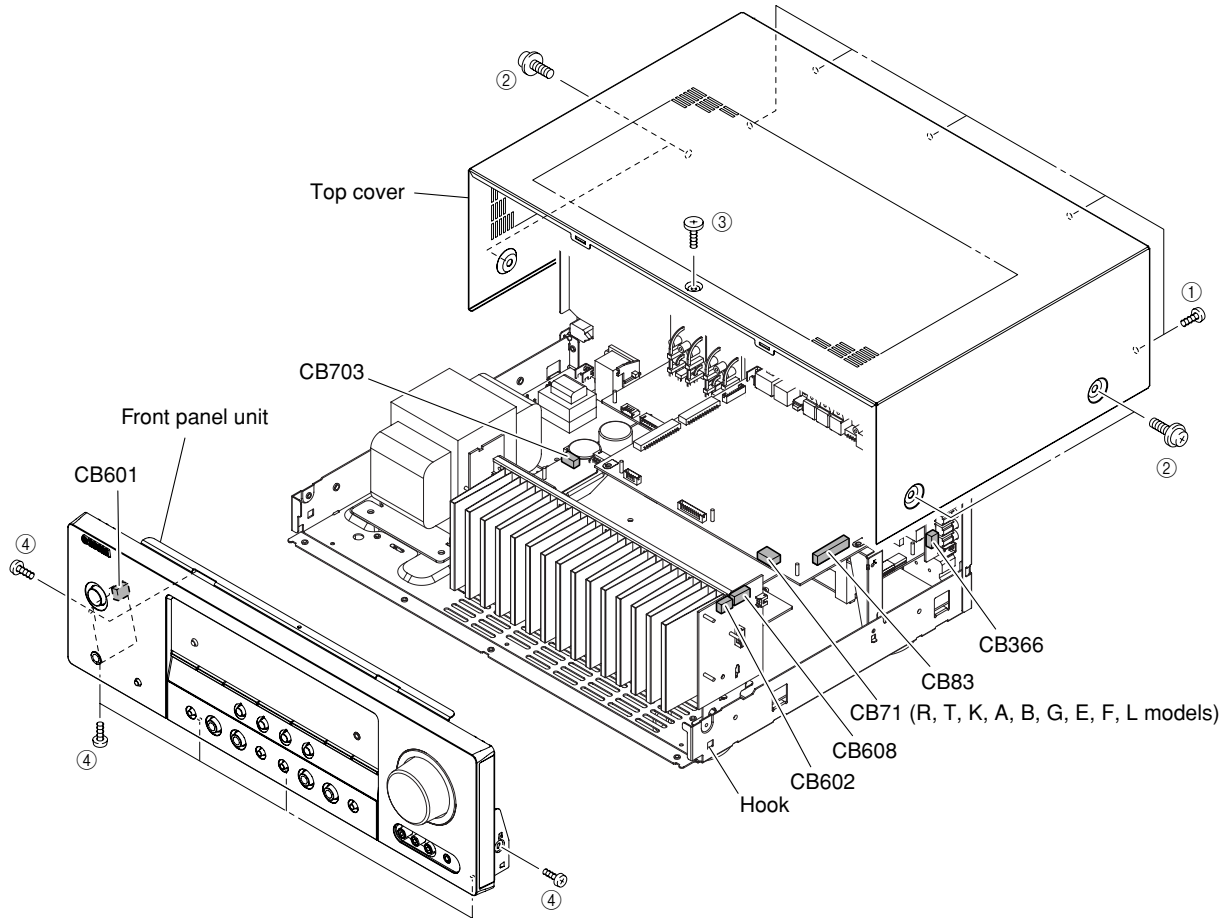

Fig. 1
- a. Remove 5 screws (①), 4 screws (②) and 1 screw (③). (Fig. 1)
- b. Slide the top cover rearward to remove it. (Fig. 1)
- a. Remove 6 screws (④). (Fig. 1)
- b. Remove CB71 (R, T, K, A, B, G, E, F, L models), CB83, CB366, CB601, CB602, CB608 and CB703. (Fig. 1)
- c. Release hook and then remove the front panel unit. (Fig. 1)